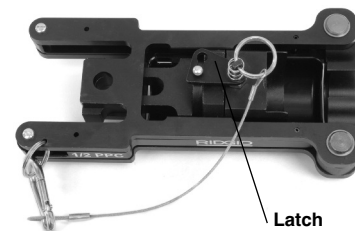

Figure 4 – Insert Latched in Place
3. Lock the insert in place with the latch. (See Figure 4)